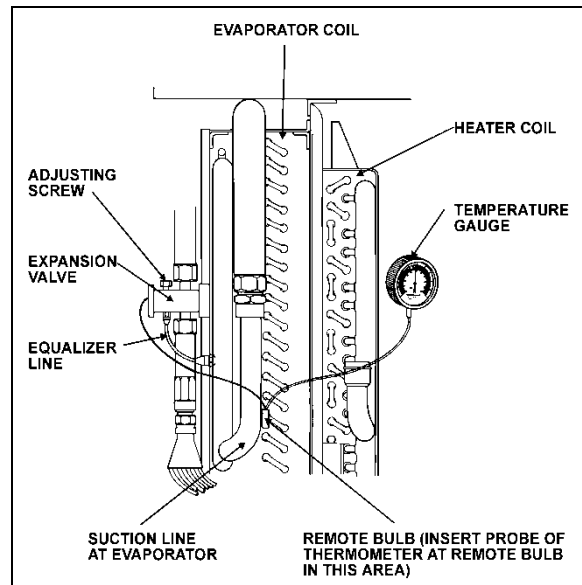

FIGURE 73: SUPERHEAT ADJUST. INSTALLATION 22046
3. Use a remote reading thermometer or thermocouple / multimeter to measure temperature at the evaporator outlet line near the existing remote bulb (Figure 73).